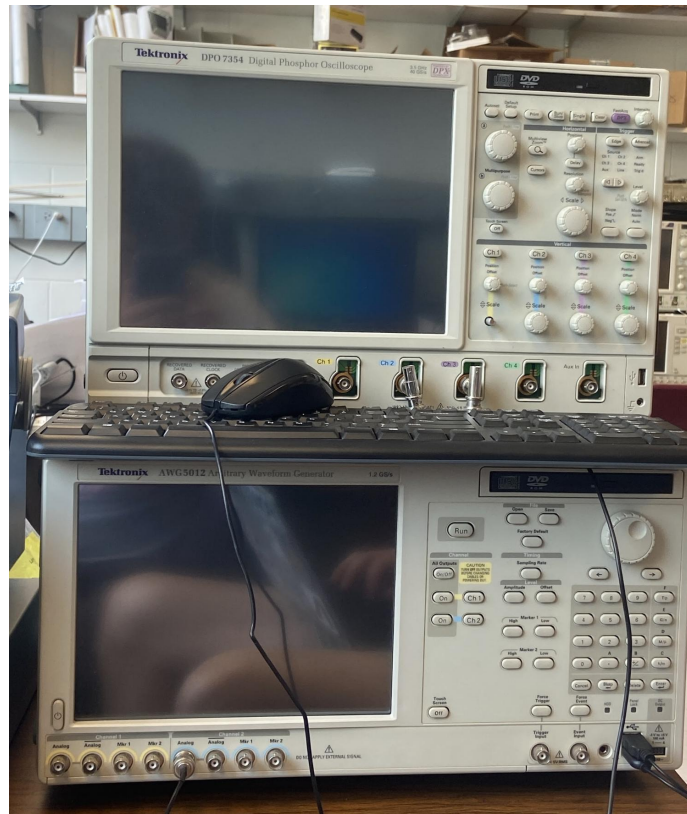

Figure 6: The Oscilloscope (Top) and the Arbitrary Waveform Generator (Bottom)
2. Locate an oscilloscope (e.g., DPO 7354) and an arbitrary waveform generator capable of generating frequencies of 40 Mhz or more (e.g., AWG 5012) and move them to your workspace. See Fig. 6 for an example.